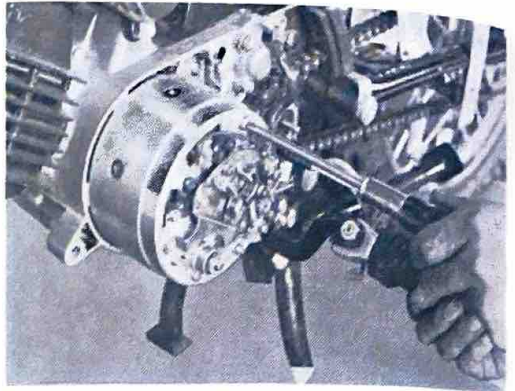

Fig. 3-1-7
7. Remove the yoke ass'y mounting bolt and the yoke. (Fig. 3-1-7)